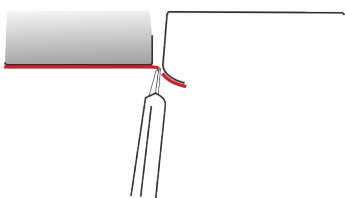

Figure 31
- › After the cut, 2 to 3 mm of the film (1 to 1½ in.) should be left over the edge of the vehicle parts. (FIG. 31)